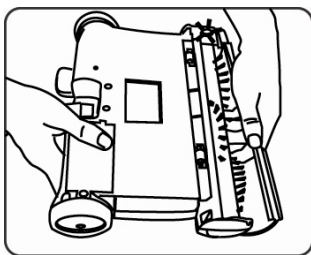

Fig. 14
4. Periodically remove the transparent brush cover on the front of the cordless sweeper and remove any build up of lint, hair or fiber on the rotating brush. To remove the cover - grip the cover from the bottom, pull out and upward until the cover unlocks from the side slots and tabs located on the top of the sweeper. Carefully cut away threads or hair with scissors. (Fig. 14)